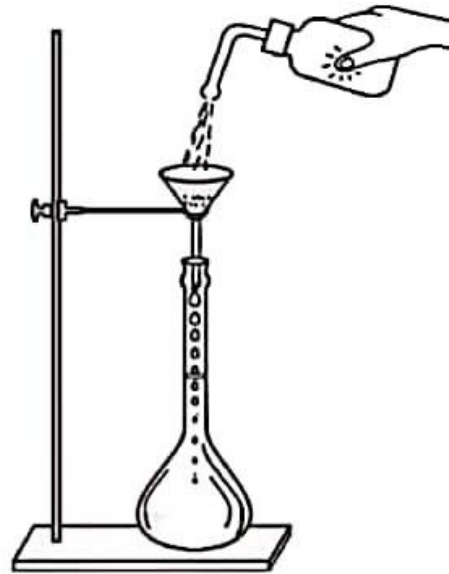

Fig. 11.15. Adding water.
5. Finally wash the funnel well with distilled water with the help of a wash bottle to transfer the solution sticking to the funnel into the measuring flask [Fig. 11.15].